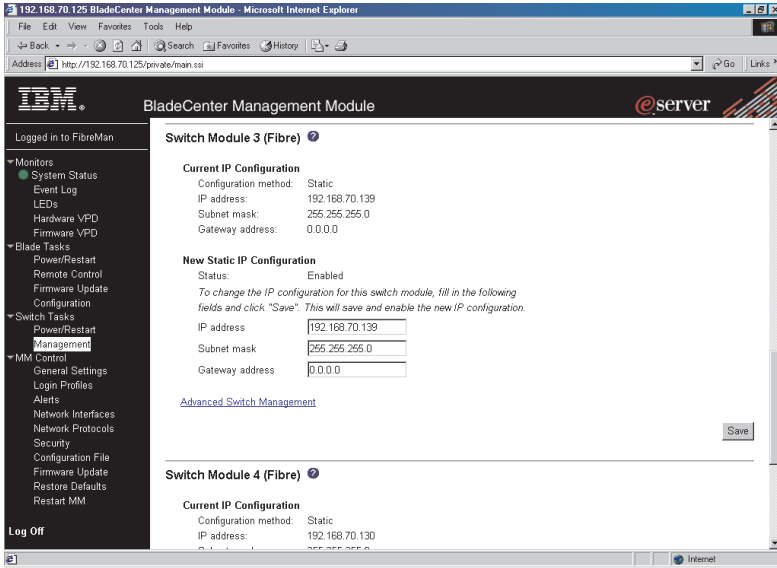

Figure 6. Switch Management window showing I/O-module 3 example
5. Click the link for either I/O-Module 3 or I/O-Module 4. A window similar to the one in Figure 6 on page 32 opens.